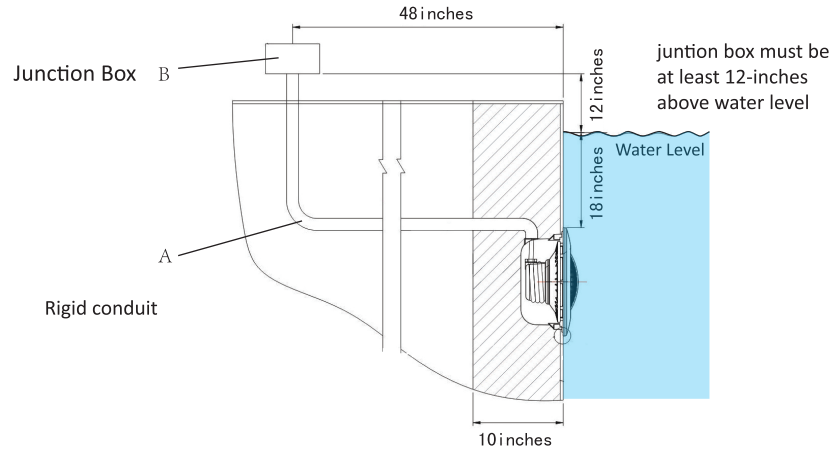

Figure 1
3. The mounting bracket must be properly installed so that the top edge of the light's lens is at least 18-inches below the water level in the pool. see Figure 1.